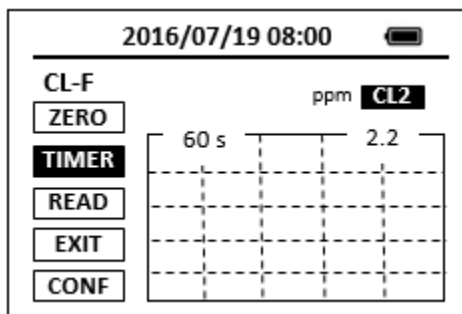

Figure 14. Single Timer Method
Most of colorimetric methods have only one timing step. As an example, in the DPD free chlorine method, it takes one minute for the DPD powder reagent to completely react with chlorine in the water sample. The DPD free chlorine method has a single one-minute timing step. Figure 14 shows the main page of a method with a single timing step.
1. Place the sample vial filled with the water sample in the SP-910 sample vial compartment and press the **ZERO** button. The SP-910 will display the page shown in Figure 14.